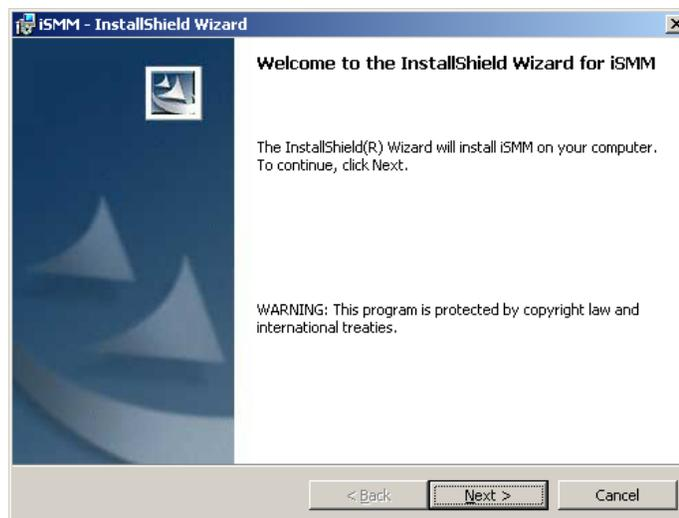

Figure 7-1: iSMM Installation Welcome Screen
Step 3: The welcome screen in **Figure 7-1** appears.